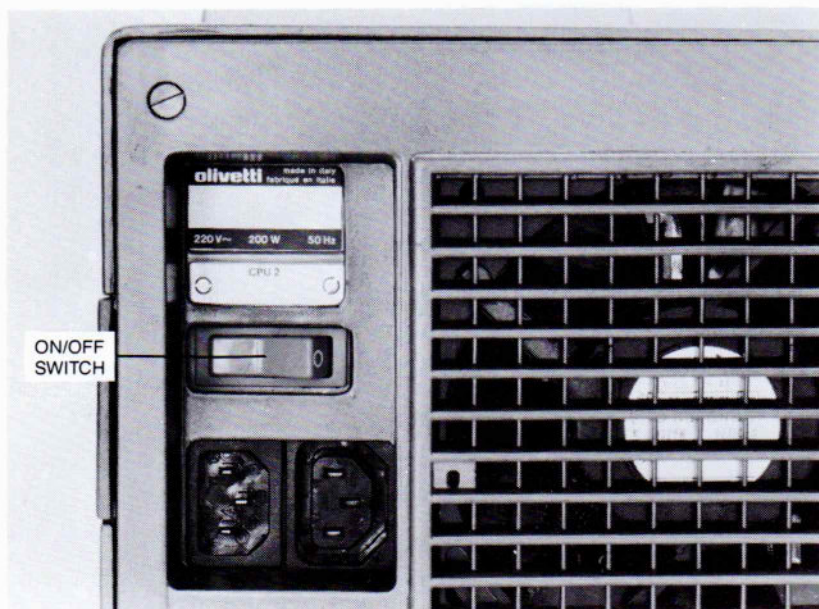

Fig. 2-5 ON/OFF Switch in the OFF Position
1. Make sure that the ON/OFF switch is in the OFF position, as shown in Figure 2-5.